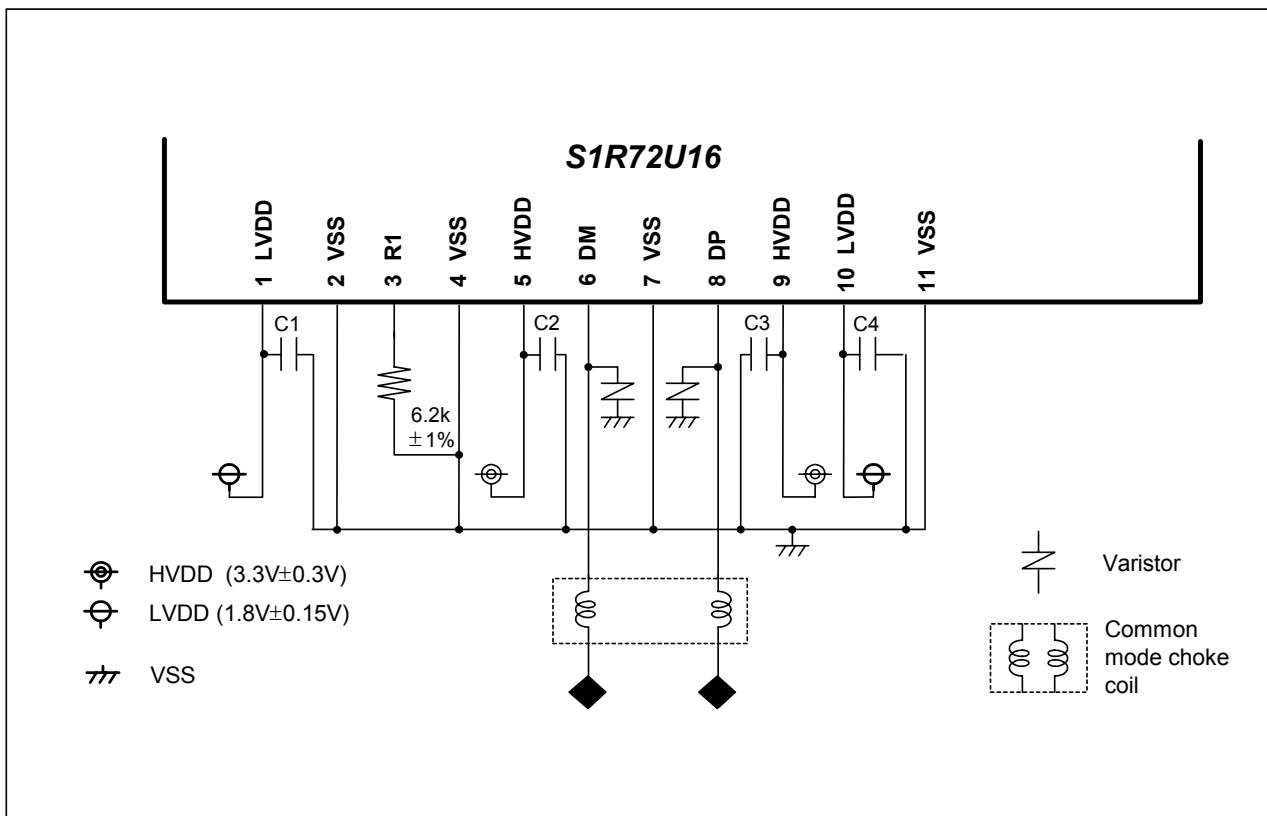

Figure 2-4 QFP14-80 package USB block circuits
- Connect the VSS pins (see Figures 2-4 and 2-5) belong to the USB 2.0 transceiver macro block to the shared GND with no separation using a low impedance configuration.